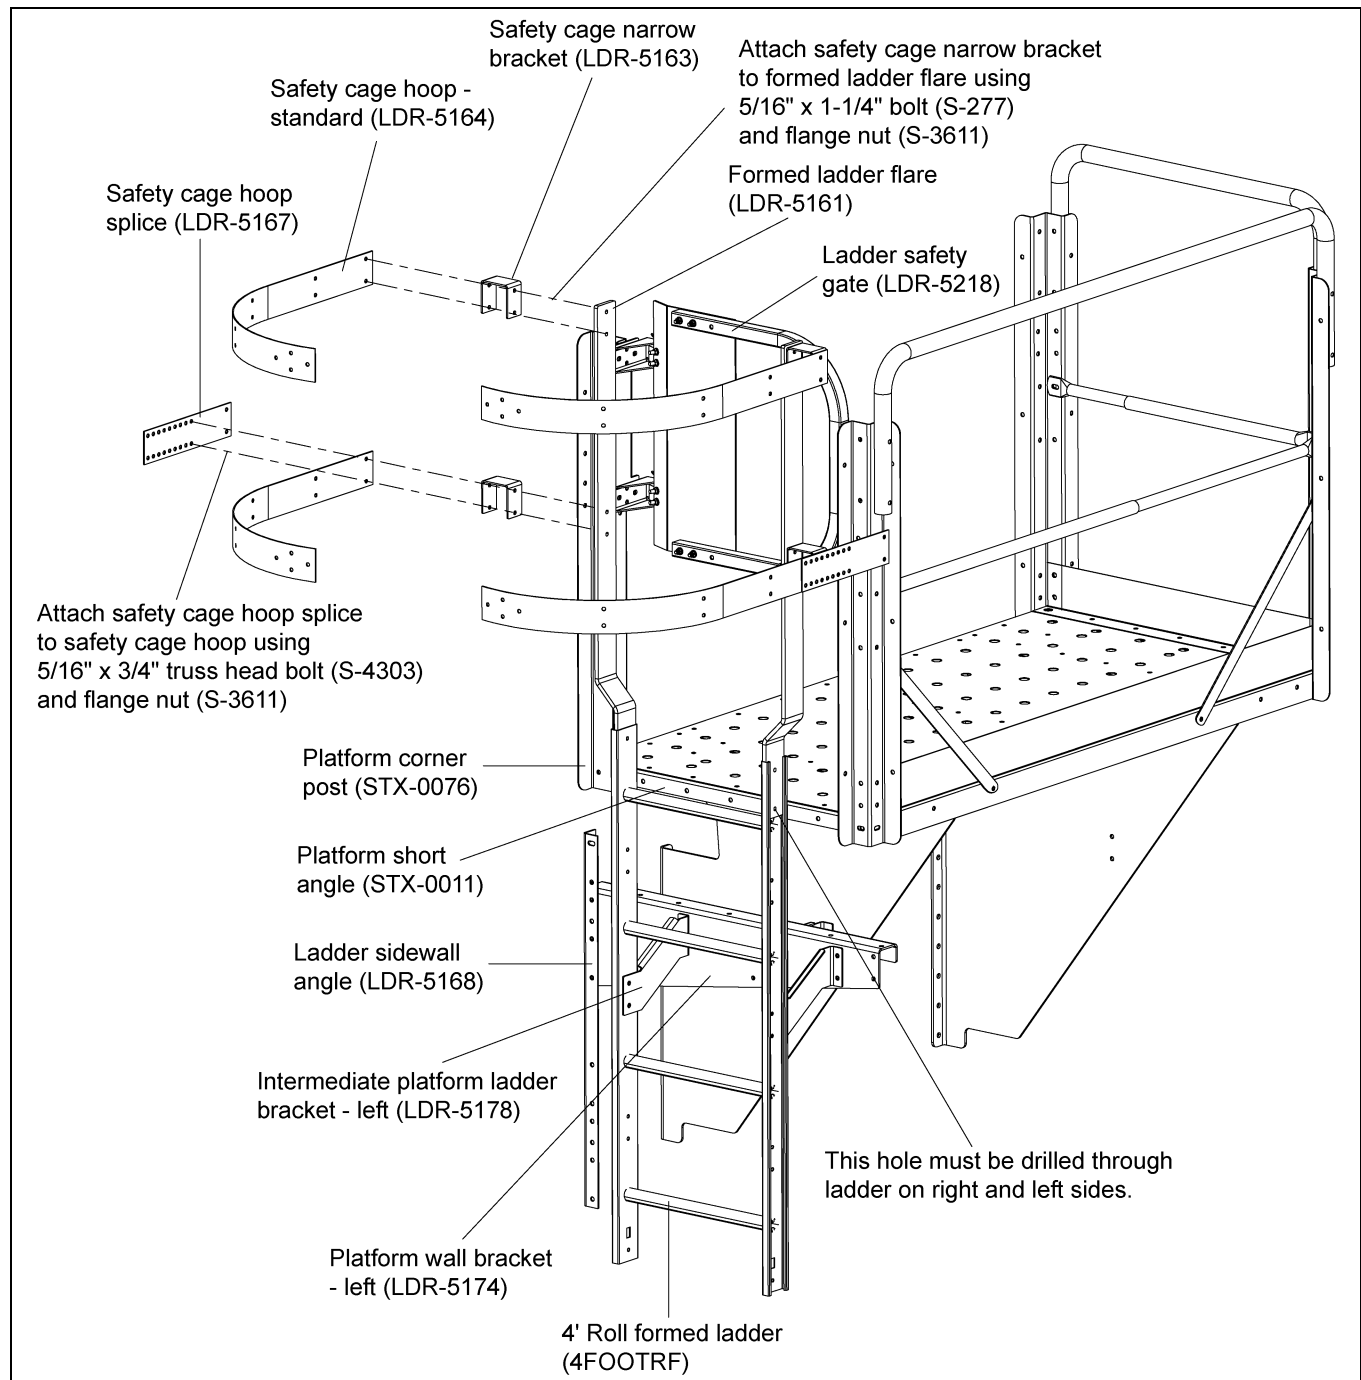

Figure 4H
- Attach the ladder flare to the ladder using 5/16" hardware. You must drill the bottom hole through the ladder and use 5/16" hardware. (See Figure 4H.)